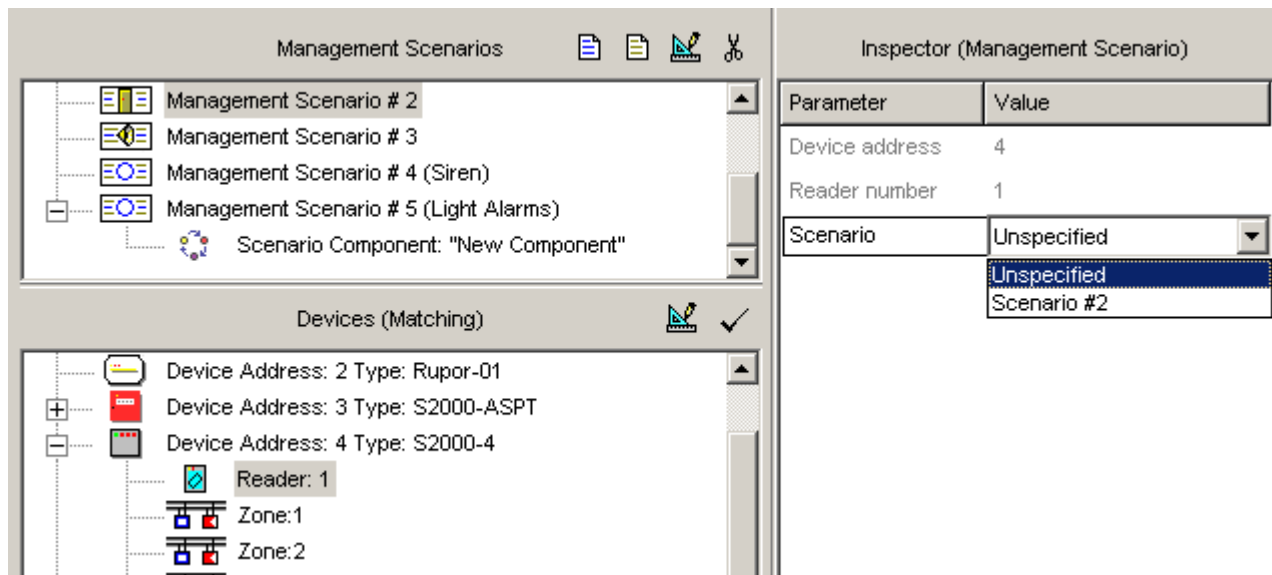

Figure 53
- ✓ *Assign the programmed scenario to the reader (readers)* the console will give centralized commands in scope of the scenario. For doing so select the management scenario in the upper window and the proper reader / readers in the lower window, and then click the Add button  or select the proper value in the dropdown list in the Scenario field of the Inspector (see Figure 53).